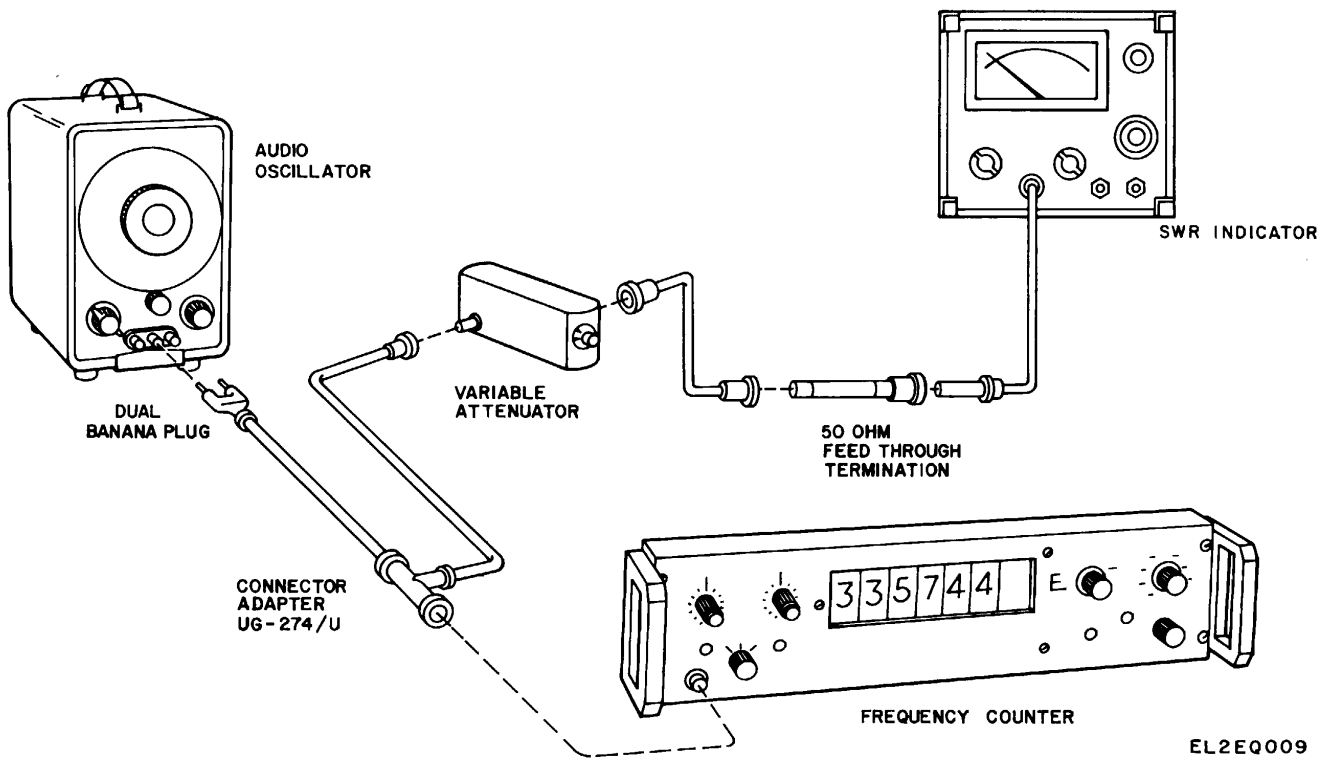

Figure 3-8. Frequency response and bandwidth test setup.
- (1) Signal Generator AN/USM-205.
- (2) Electronic Digital Readout Counter AN/USM - 207.
- (3) Attenuator CN-970/U.
- (4) 50 ohm feed-through termination.
- b. Test Connections and Conditions. Connect the equipment as shown in figure 3-8. Allow sufficient time for the equipment to warm up and stabilize.
- (2) Electronic Digital Readout Counter AN/USM-207.
(3) Attenuator CN-970/U.
(4) 50 ohm feed through termination.
b. Test Connections and Conditions. Refer to figure 3-8 for test connections.